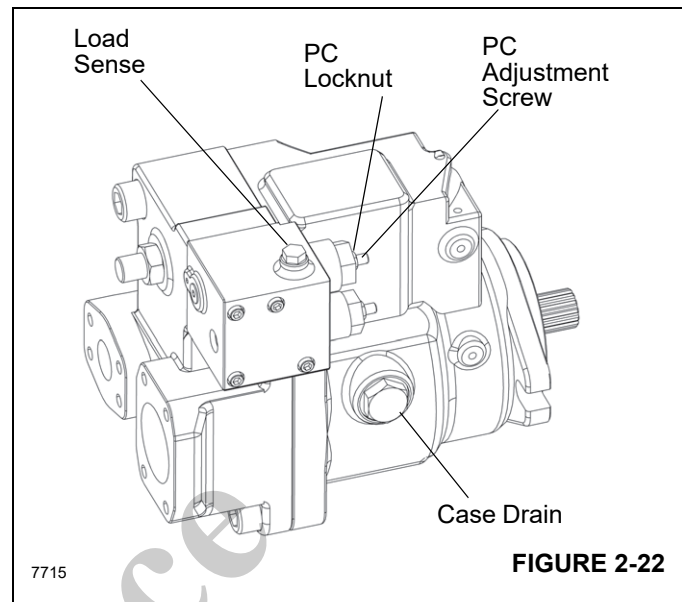

**FIGURE 2-21**
- Method #1: Leave the main hoist up/down hoses connected to the motor and cap the main hoist brake line at the hoist down block on the hoist with a #4 JIC Cap. Using this method, activate the hoist down function to develop maximum pressure (Figure 2-21).
- Method #2: Disconnect and cap the main hoist up/down hoses. Refer to Figure 2-21. Using this method, activate the hoist up or hoist down function to develop maximum pressure.
Method #1: Leave the main hoist up/down hoses connected to the motor and cap the main hoist brake line at the hoist down block on the hoist with a #4 JIC Cap (Figure 2-21). Using this method, activate the hoist down function to develop maximum pressure.
Method #2: Disconnect and cap the main hoist up/down hoses (Figure 2-21). Using this method, activate the hoist up or hoist down function to develop maximum pressure.
Method #1: Leave the main hoist up/down hoses connected to the motor and cap the main hoist brake line at the hoist down block on the hoist with a #4 JIC Cap. See Figure 2-21. Using this method, activate the hoist down function to develop pressure.